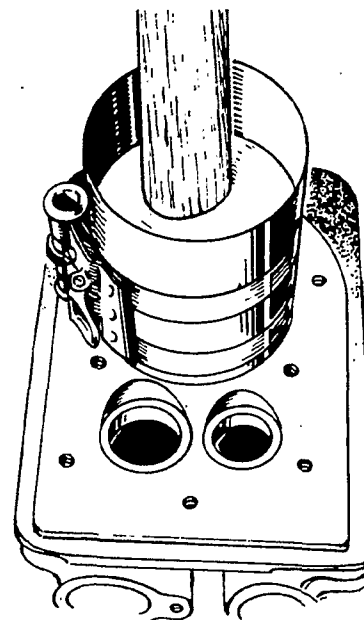

FIGURE 27. INSTALLING PISTON AND CONNECTING ROD
2. Lubricate the number one piston assembly and inside of the cylinder. Compress the rings with a ring compressor (Figure 27).
4. Tap the piston down into the bore with the handle end of a hammer until the connecting rod is seated on the journal (Figure 27). Install the bearing cap on the rod.